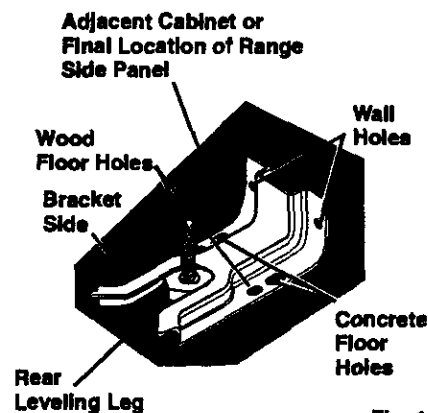

Fig. 1
B. Use the bracket as a template and mark 2 hole positions on the wall and 2 hole positions on the floor. Use either the wood or concrete floor set of positions, depending on your floor type. See Fig. 1.
- B. Check if the **ANTI-TIP** bracket is installed and engaged properly. Remove the kick panel or storage drawer and inspect the **REAR LEVELING LEG**. Make sure it fits securely into the slot. See Fig. 1.